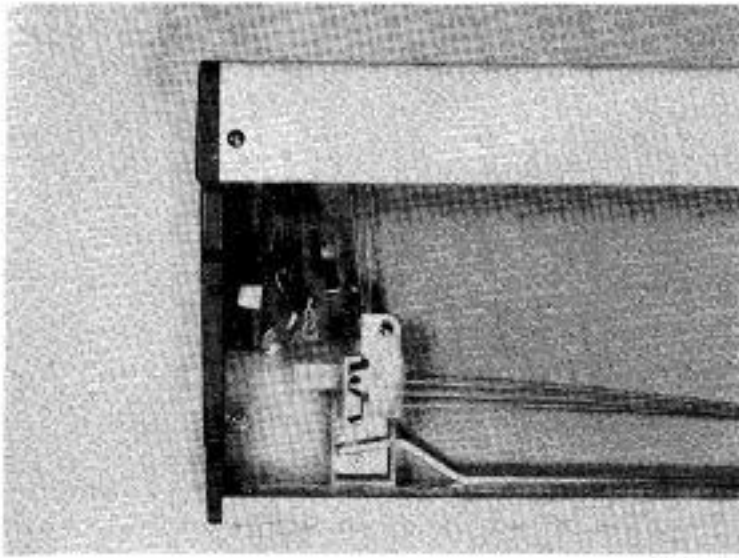

Fig. 14
9. Take out the Overhead Feeder Unit and Rod from inside of the case lid. (Fig. 14)